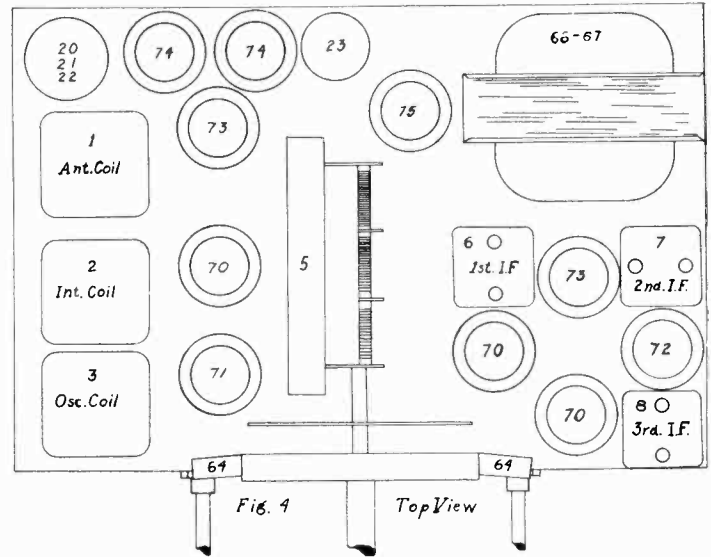

Fig. 4 Top View
- IV. (a) Peak both tuning condensers located on top of the first I.F. transformer shown on Fig. 4. NOTE: Be sure to use the lowest oscillator output that will give a reasonable scale deflection on the output meter. 30 to 90 volts output is satisfactory.
(b) Peak both tuning condensers located on top of the 2nd I. F. transformer shown on Fig. 4.
(c) Peak both tuning condensers located on top of the 3rd. I.F. transformer shown on Fig. 4.